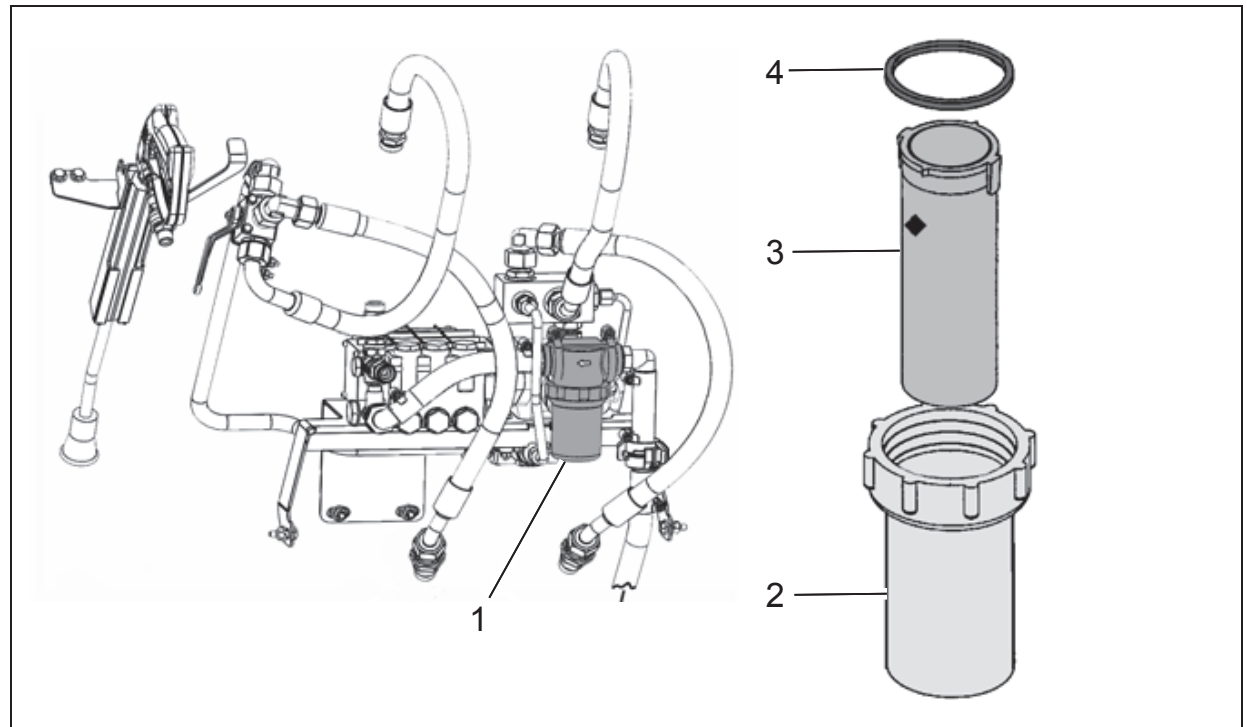

Fig.9
Check the fresh water filter (Fig. 9/1) weekly and clean it as required.
1. Unscrew the filter housing (Fig. 9/2).
2. The filter element (Fig. 9/3) can be cleaned by washing or blowing out.
3. Check the seal (Fig. 9/4), replace if necessary.